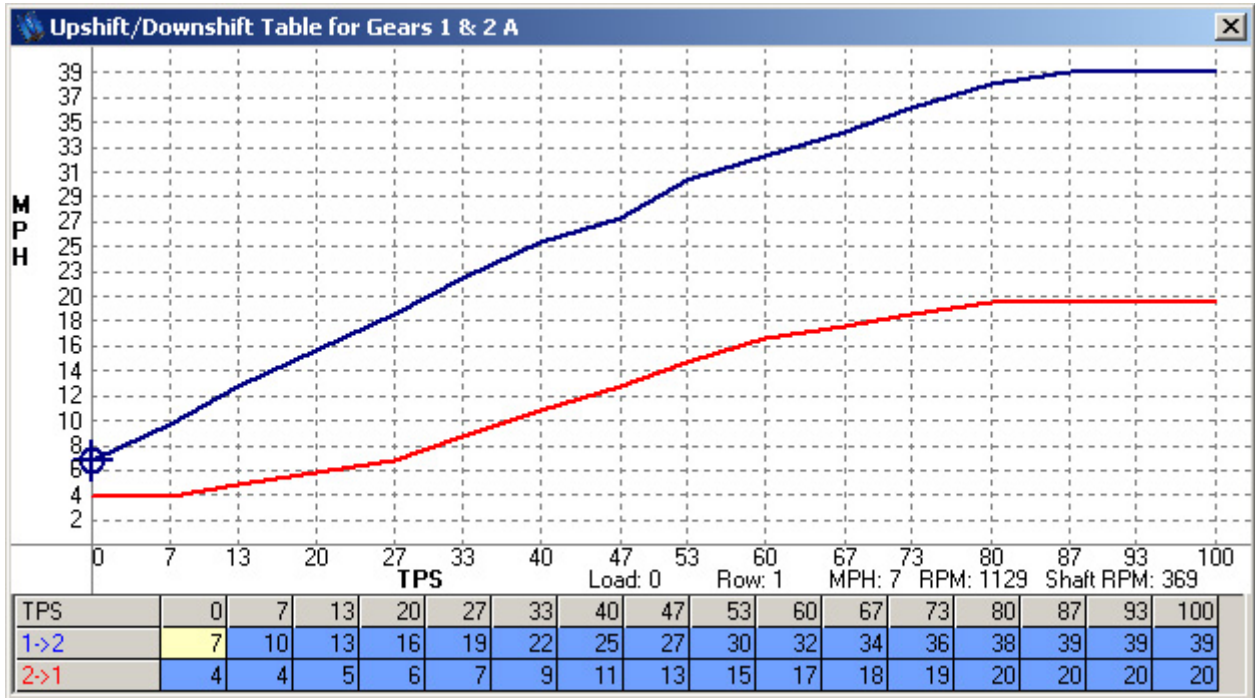

Figure 12. Upshift/Downshift Table
4.1. Low gear to high gear shift (upshift). A good example to walk through is pictured in Figure 12. The shift table below shows a 1st to 2nd gear shift with a blue line. In most configurations you will want to use load (TPS or MAP) as an indicator of desired shift speed. At low load you will want a low shift speed to keep the engine from revving too high. Maintaining a low shift speed will also lead to smoother shifting as line and accumulator pressure are typically programmed for softer operation at low load. At high load you will want a high shift speed to utilize full engine power before shifting. Your upshift points (blue line) should always be higher than your downshift points (red line). In each cell, the transmission will not upshift until reaching the speed value in the box for each load point. Be careful not to exceed your maximum RPM with any speed value. The speed input/output form has a speed calculator based on engine RPM, gearing, final drive ratio, and tire size which can help you match this chart to your WOT settings.
4.2. High gear to low gear shift (downshift). *Figure 12.* provides a good example of a 2nd to 1st gearshift. Similar methodology applies to the downshift as did for the upshift in this form. In each cell, the transmission will not downshift until reaching the speed value in the box for each load value. Be careful not to exceed your maximum RPM with any speed value. The speed input/output form has a speed calculator based on engine RPM, gearing, final drive ratio, and tire size which can help you match this chart to your WOT settings. Always keep adequate room between the upshift table and downshift table. If you do not, your transmission may hunt for gears and shift too often or in inappropriate situations.